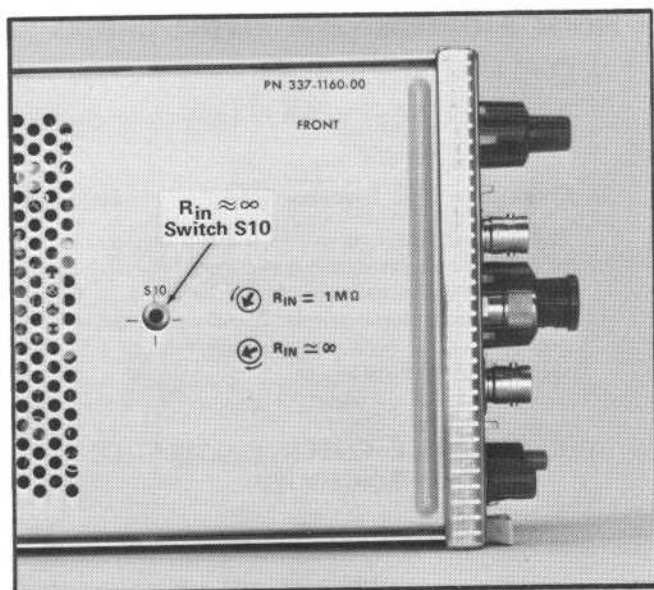

Fig. 5-1. Location of the $R_{in} \approx \infty$ switch S10 on the Attenuator board.
1. Set the Type 7A13 $R_{in} \approx \infty$ switch, S10 (see Fig. 5-1), to the $R_{in} = 1\text{ M}\Omega$ (counterclockwise) position.
$R_{in} \approx \infty$ (internal switch, S10, see Fig. 5-1)	$R_{in} \approx 1\text{ M}\Omega$ (see Preliminary Procedure, step 1)